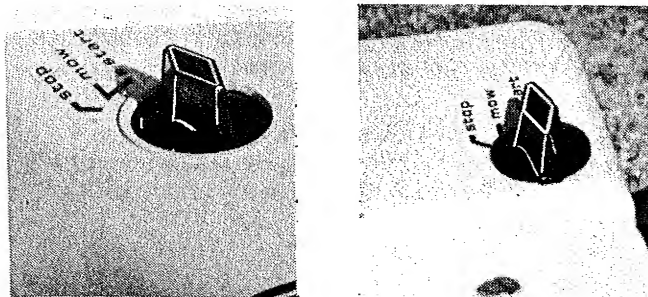

FIGURE 2
**2. Speed Control Knob:** Turn the speed control knob clockwise to the start position before attempting to start the engine. Engine speed is controlled by the position of the knob. Turn the control knob so the engine runs at three-fourths to full engine speed when mowing. On manual start models the engine is stopped by turning the knob counter-clockwise to the stop position. Electric start models can be stopped by turning the key to the OFF position. (See Figure 2).